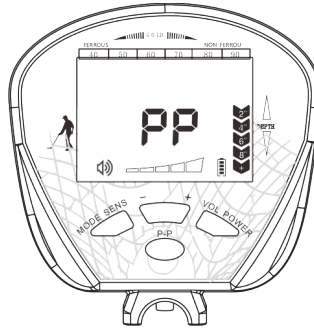

Fig.16
a) Touch the "P-P" button lightly, and the PP cursor lights and flashes. The detector completes the balance, and the PP cursor stops flashing. The identify cursor and digital cursor are extinguished, the depth cursor is full, and the detector sounds a slight single frequency tone. (See Fig.16)